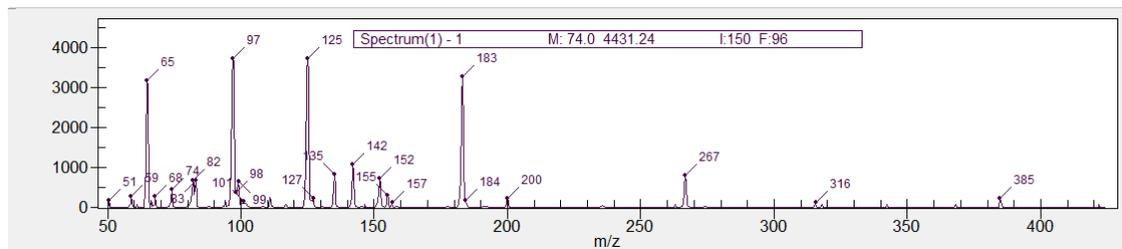

Figure 1.1 – Mass spectrum of positive-ion mode calibration mixture
- Once the transfer lines have been successfully purged, change the flow rate to 10 $\mu\text{L}/\text{min}$. The mass spectrum generated should be similar to the positive-ion calibration spectrum seen in Figure 1.1.